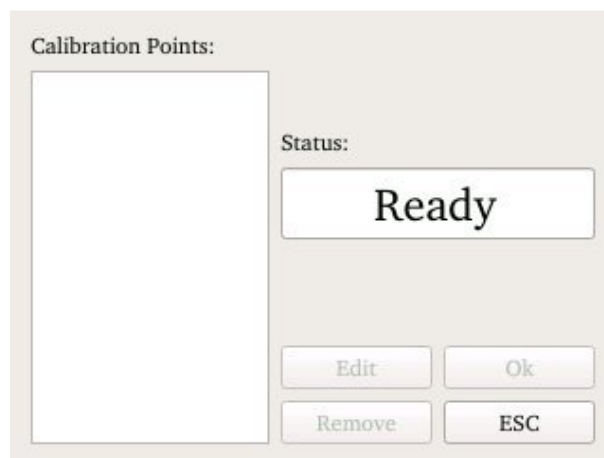

Figure 13: Calibration mode “Ready”
- The window according Figure 13 opens with the text “Ready”. The calibration can start.